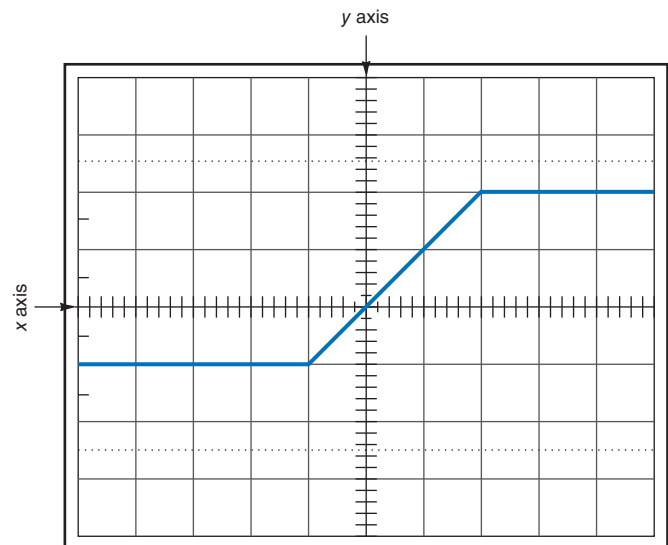

Figure 26-31 Vertical: 2 V/div; horizontal: 5 ns/div.
26.4 Determine the rise time of the pulse in Fig. 26-31.